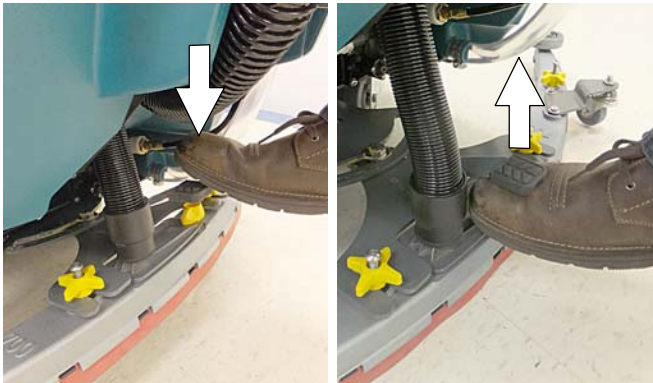

FIG. 76
4. Lower the squeegee assembly to floor by stepping on foot pedal (Figure 76). To raise squeegee assembly, place foot under foot pedal and lift. The vacuum motor will automatically start when squeegee is lowered to floor.